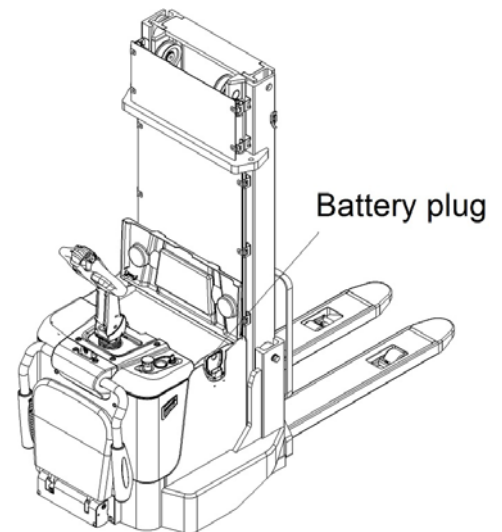

Fig.15: Battery charging
Park the truck securely and switch off the stacker with the key (18) and activate the emergency button (20). Open the battery cover and pull out the hinge. Then remove the battery cover, unscrew and remove the battery fixing plate, pull out the battery plug (Fig.15), and take the batteries out with a crane. The installation is in the reverse order of the removal. Please connect the positive terminals firstly. Otherwise the tuck could be damaged.